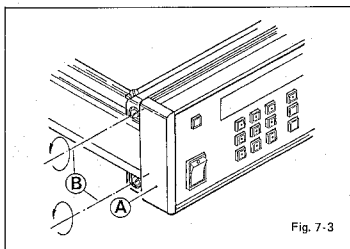

Fig. 7-3
- Remove screws (B) (Fig. 7-3)
- Remove side pieces (A) (Fig. 7-3)